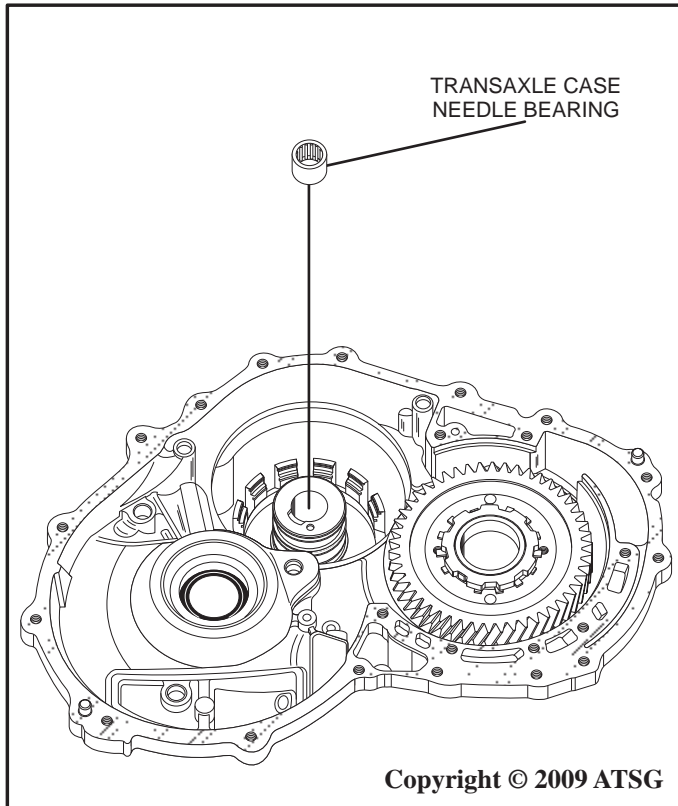

Figure 184
76. Inspect the needle bearing in the transaxle case and remove (if necessary) using SST 09387-00040, (09387-01020, 09387-01030, 09387-01040) or a similar bearing puller. Refer to Figure 184 for reference.